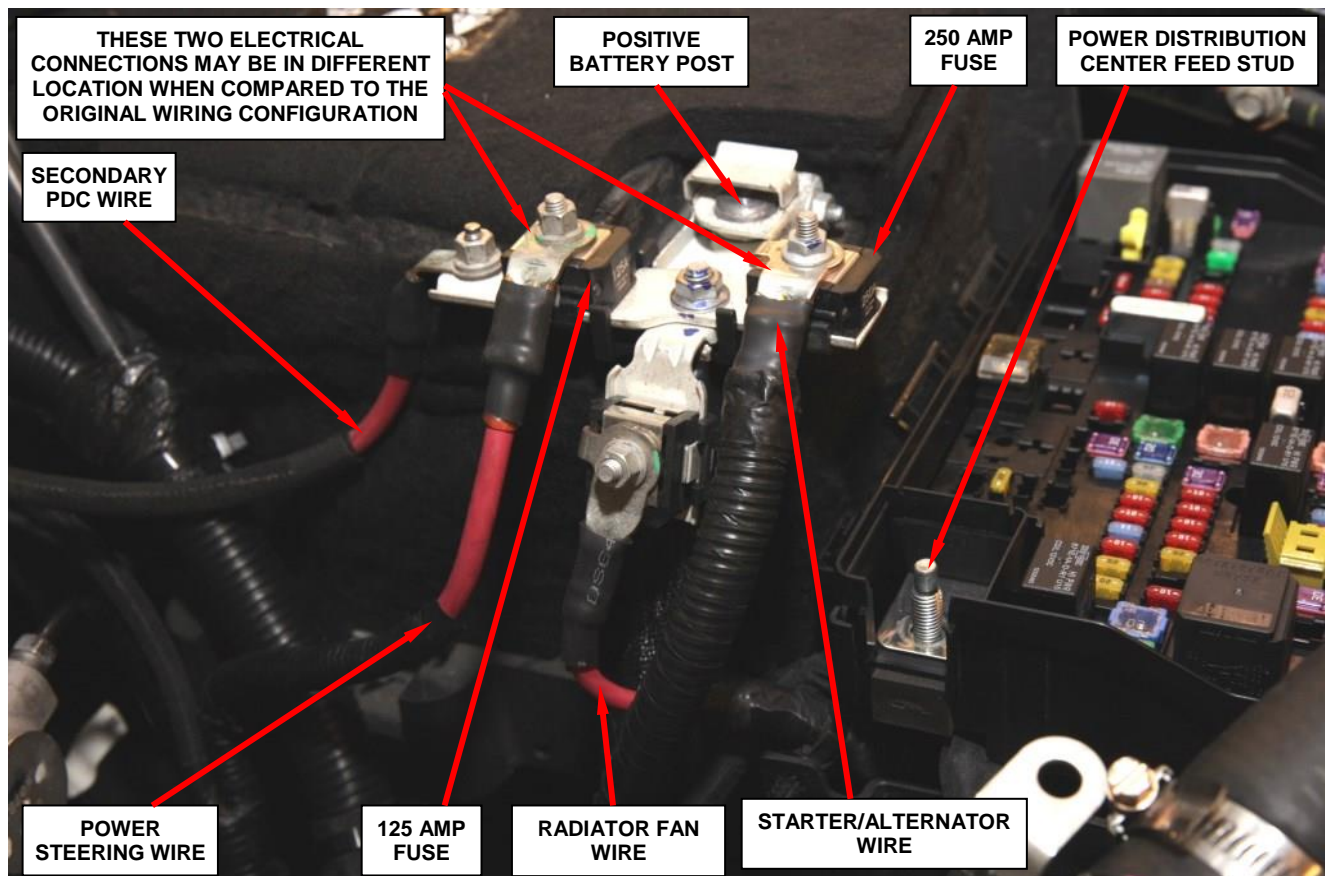

Figure 11 – Battery Positive Electrical Connections
56. Connect the PDC battery B+ feed wire to the PDC feed stud (Figure 11). Tighten the retaining nut to 106 in. lbs. (12 N·m).
59. Connect the battery feed wires at the positive battery post terminal studs (Figure 11). Tighten the nuts to 80 in. lbs. (9 N·m).